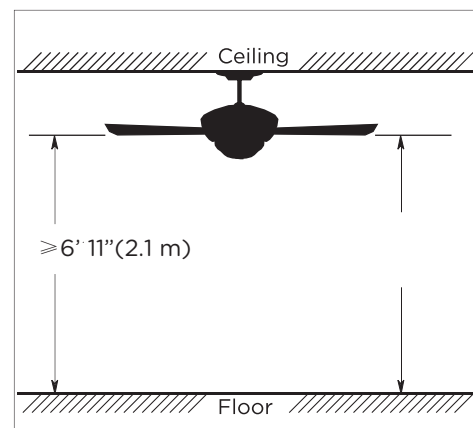

Fig. 3
- Choose a location where there is a high enough ceiling clearance of at least 6' 11" (2.1 m) between the floor and the blades (Fig. 3).